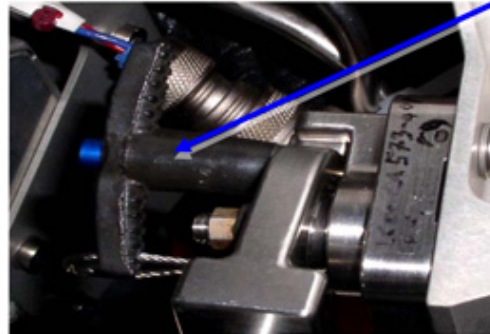

Figure 1-3 Pip-Pin at Lower Adapter
- 1.3 Release pip-pin (tethered) from lower adapter. Refer to Figure 1-3.